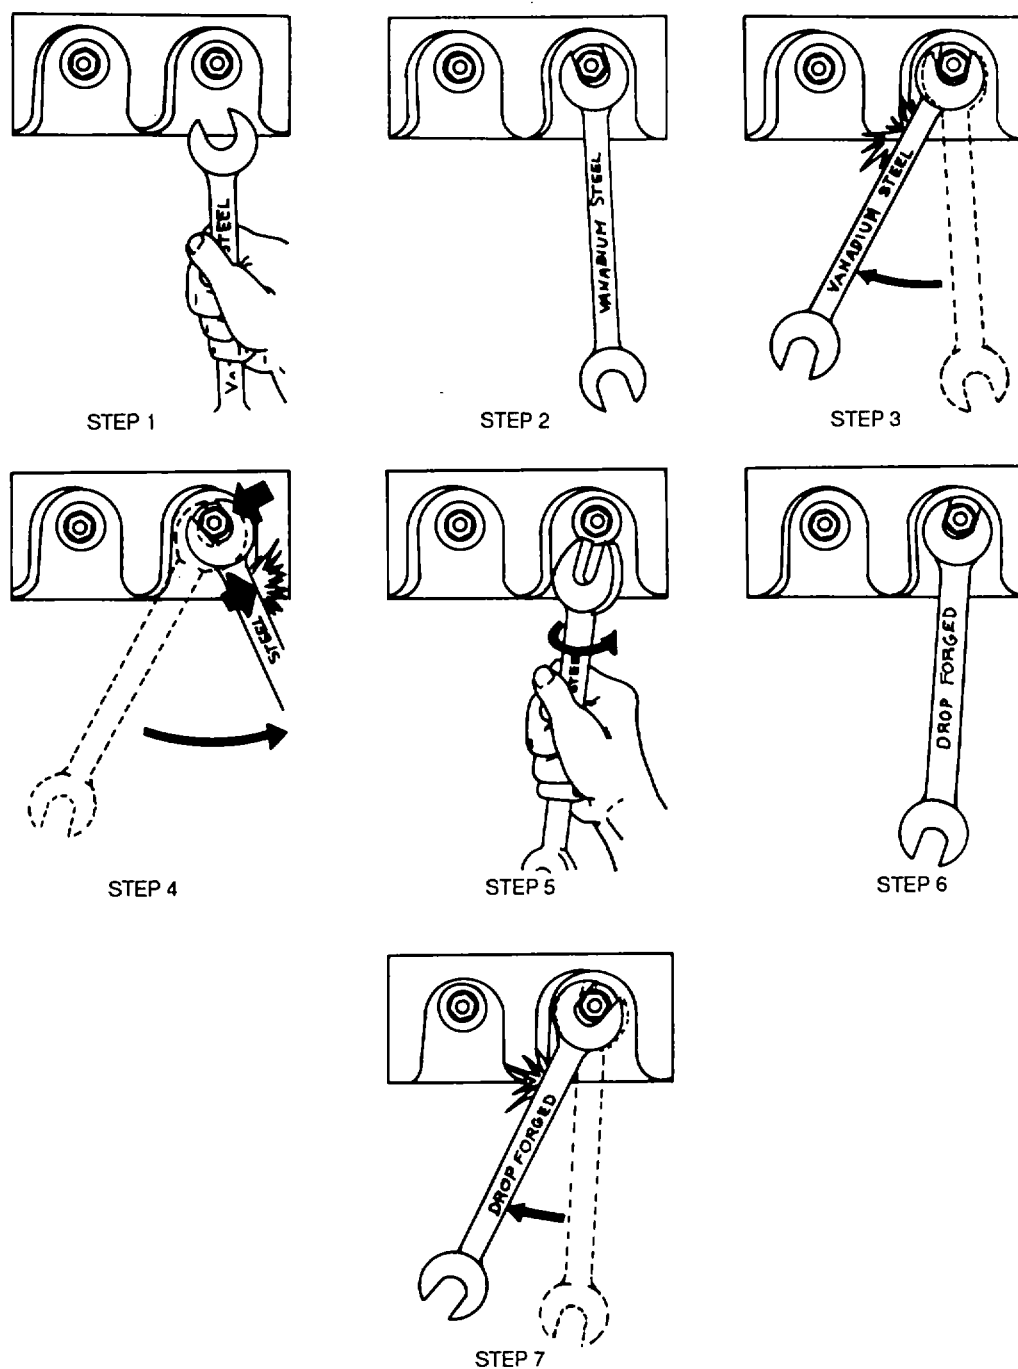

Figure 4-32. Use of Open-End Wrench
(1) Use of open-end wrenches. The 15-degree offset of the jaws from the centerline of the wrench makes the open-end wrench appropriate for use in some applications where there is room to make only a part of a complete turn of a nut or bolt. A typical procedure for this application is shown in figure 4-32 and outlined in the following: